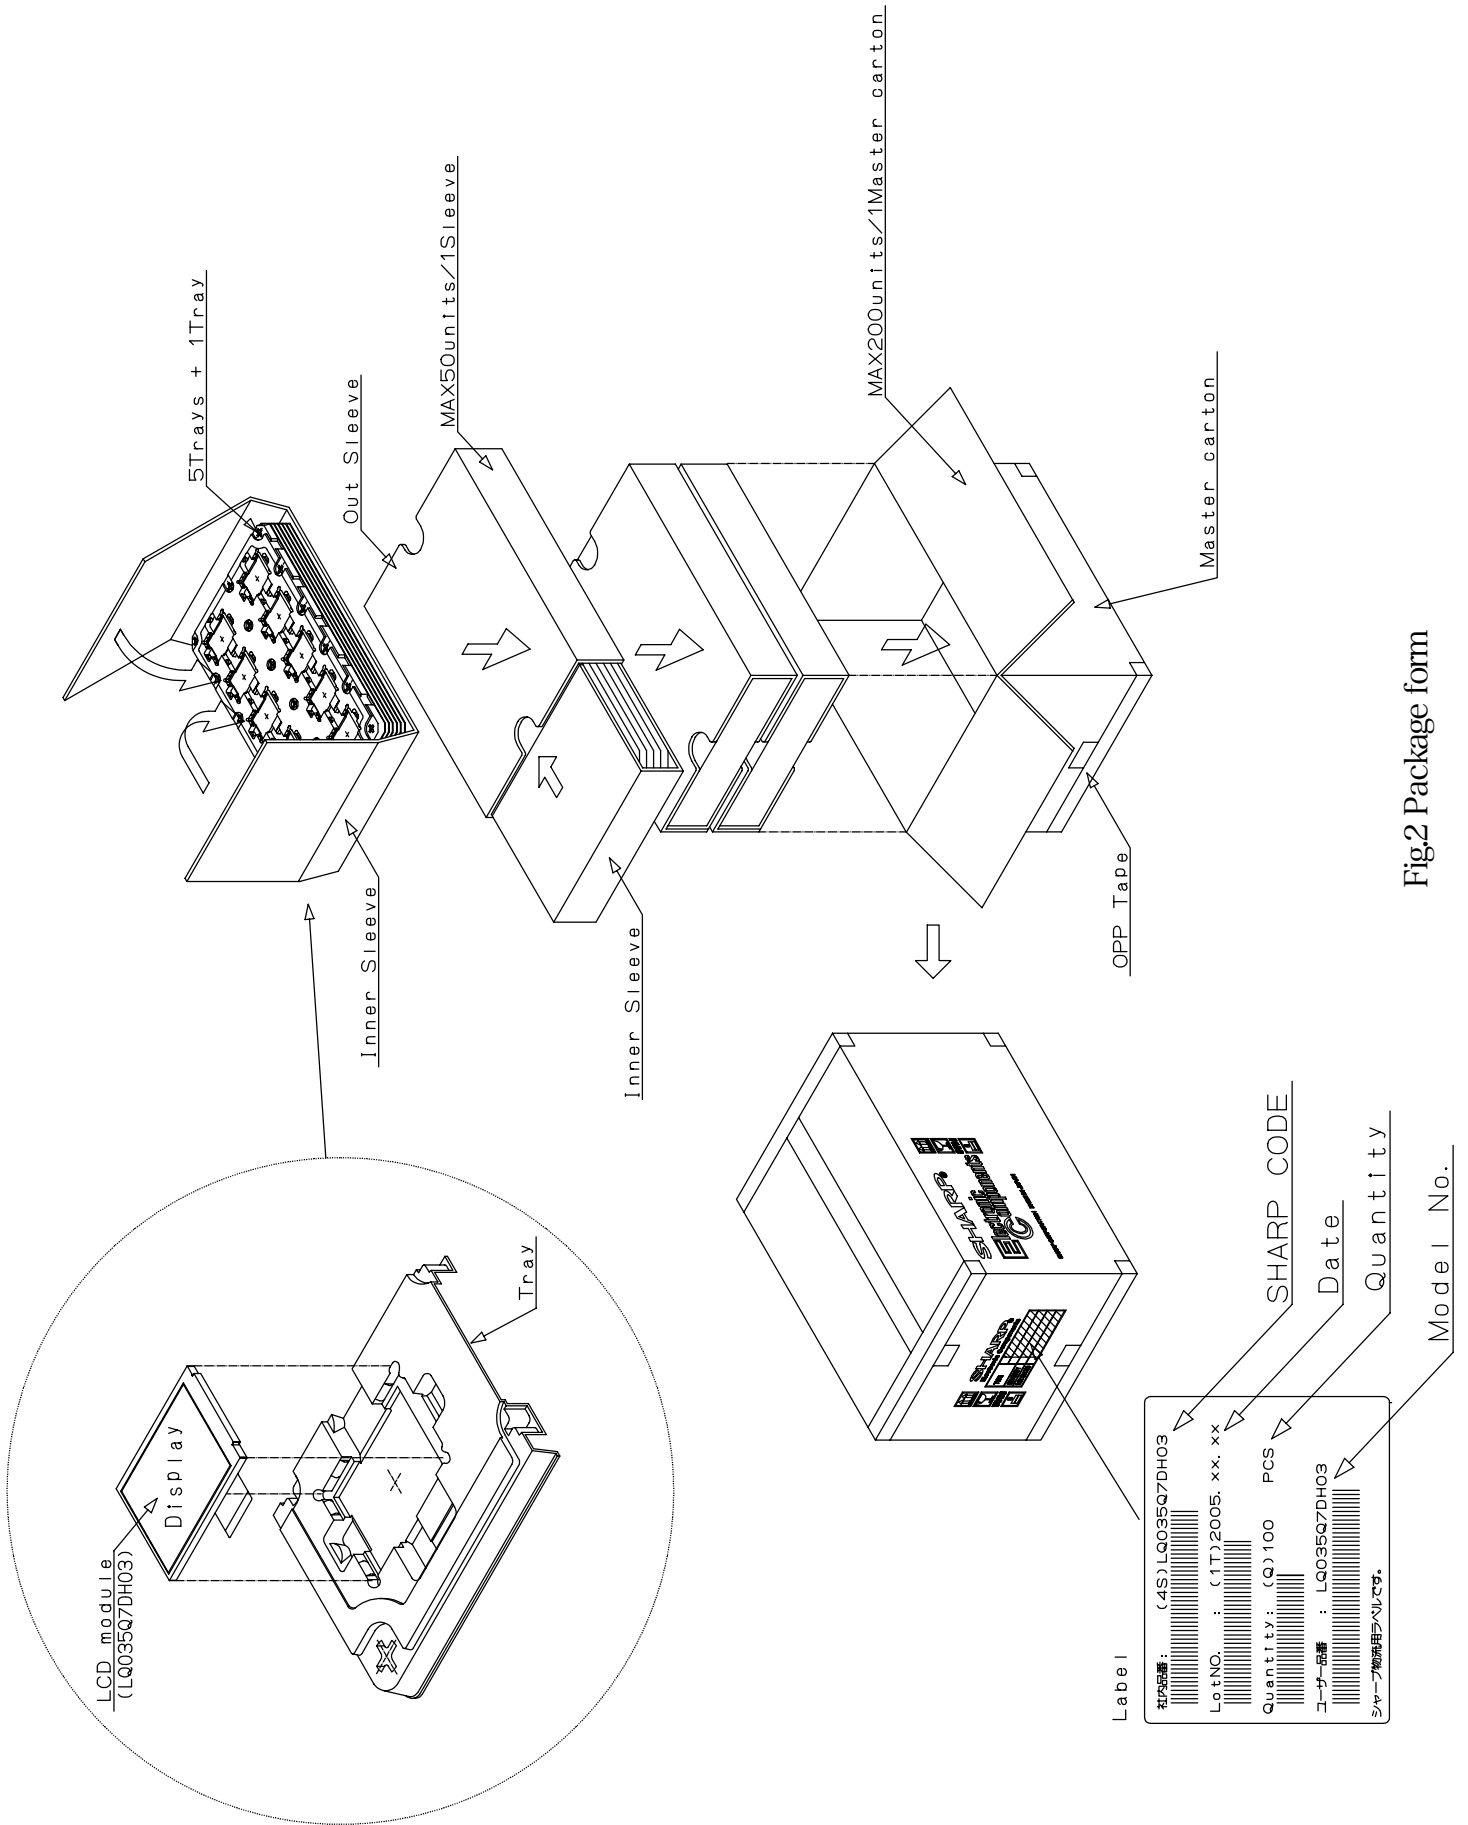

Fig.2 Package form
(15) Forwarding form (See Fig.2 Package Form)